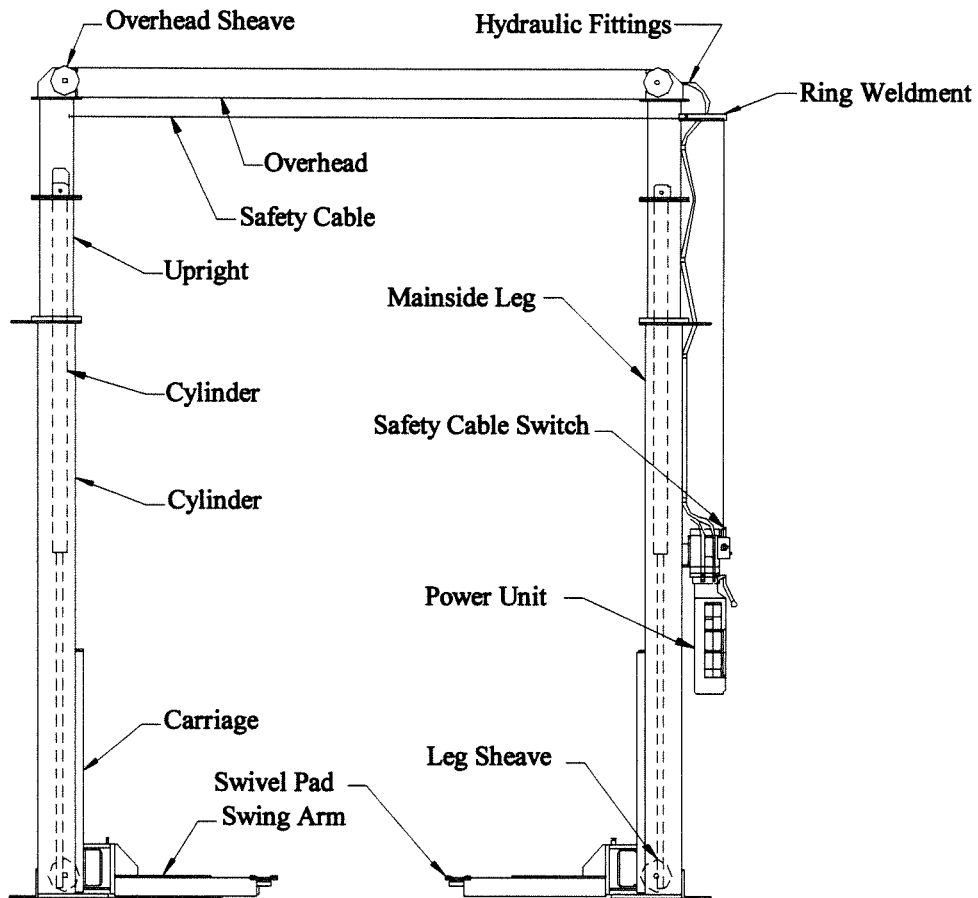
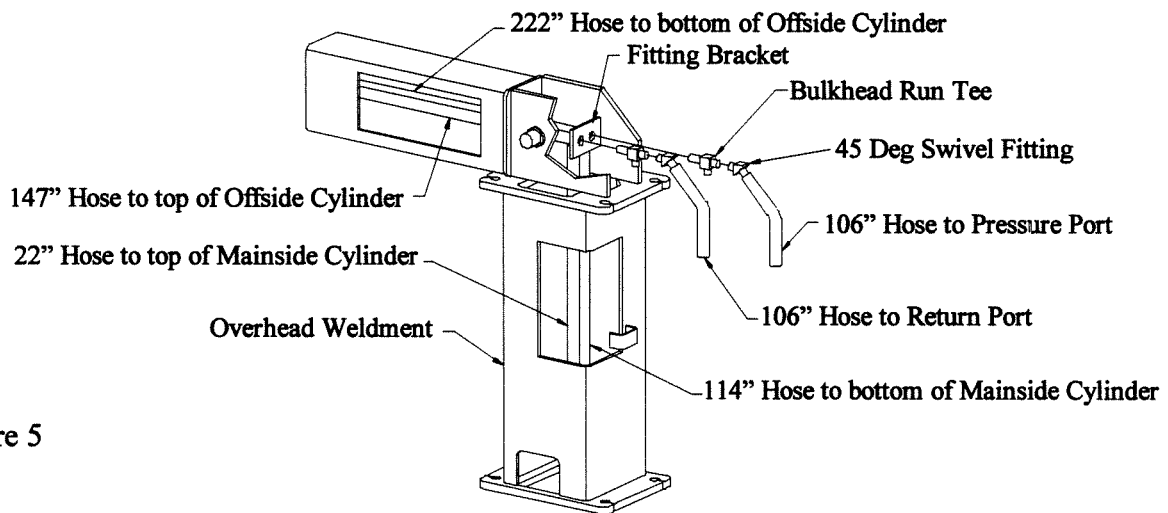
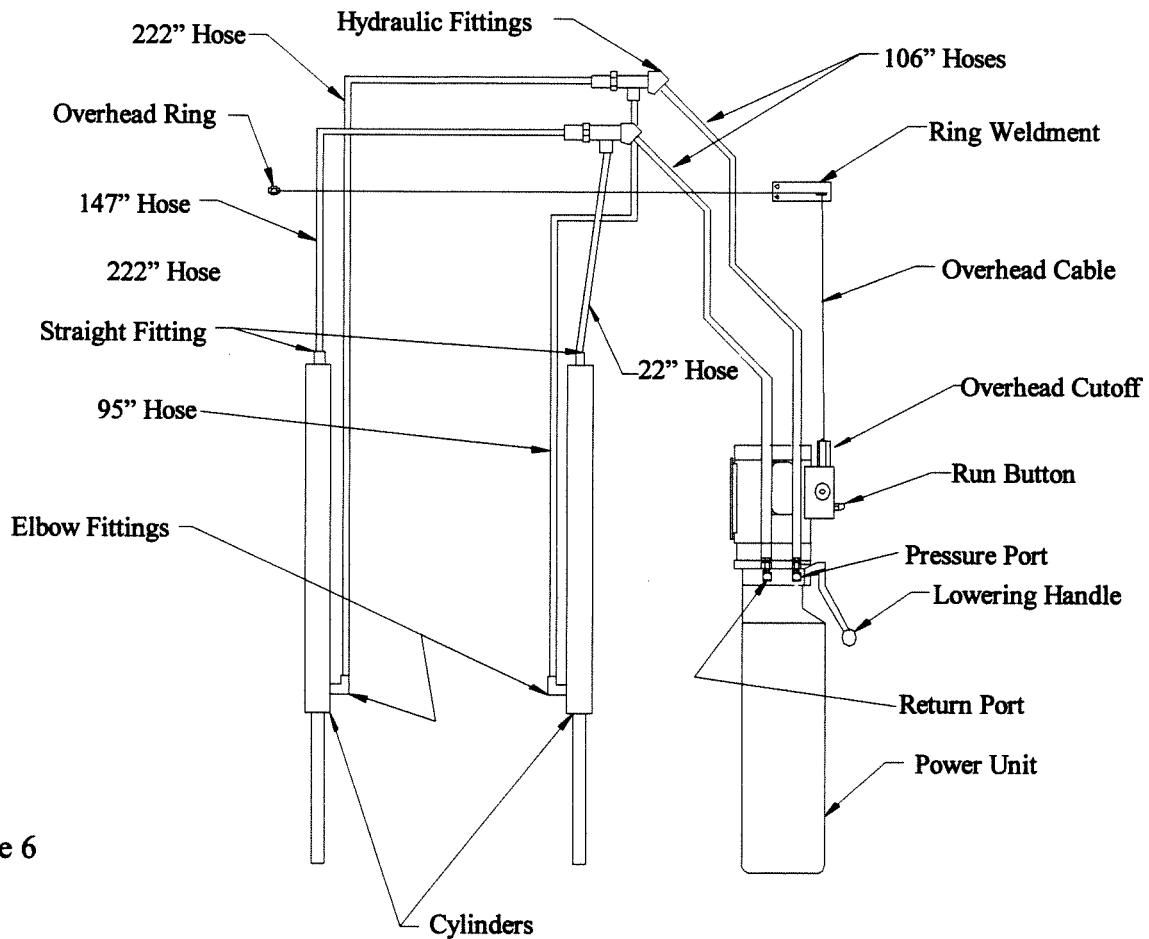

Figure 1
Figure 5
Figure 6
3. Refer to Figure 1 below to see how the lift is assembled.
11. Refer to Figure 5, 15000 Two Post Hose Diagram. With the overhead beam still on the ground install the bulkhead fittings and the 45 swivel fittings as shown. Run the hoses thru the overhead as shown and attach to the fittings as shown. Attach the outside hoses to the fittings. Attach the ring weldment to its mounting bracket using the 5/16 bolts and nuts provided. See Figure 1 for location of ring weldment on lift. Install the plastic coated limit cable on the overhead. Strip 3" of plastic from one end of the cable. Loop and clamp the end to the ring on the offside side of the overhead. Run the cable across to and thru the ring on the ring weldment just installed as shown in Figure 6 on following page.
23. Refer to back to Figure 6. Connect the pressure hose and return hose to the power unit fittings. Make the pressure hose and return hose connections to the mainside and offside cylinders. The pressure hoses attach to the elbow fittings at the rod end of the cylinders. The return hoses attach to the straight fittings at the top of the cylinders. Do not tighten the cylinder end of the pressure hoses at this time. The pressure hoses to the cylinders run along the sides of the cylinders. Using two tie wraps per cylinder, attach the hoses to the cylinder barrels. Where the hose goes thru the plate at the top of the leg for the upright, it should be centered on the side of the cylinder.